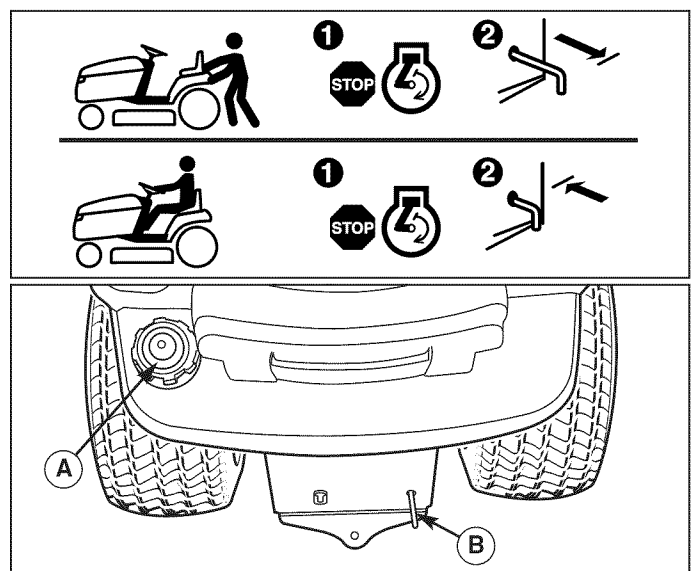

Figure 5. Transmission Release Lever & Fuel Tank
1. Remove the fuel cap (A, Figure 5).
2. Pull the transmission release (B, Figure 5) back approximately 2-3/8" (6 cm) to lock into released position.